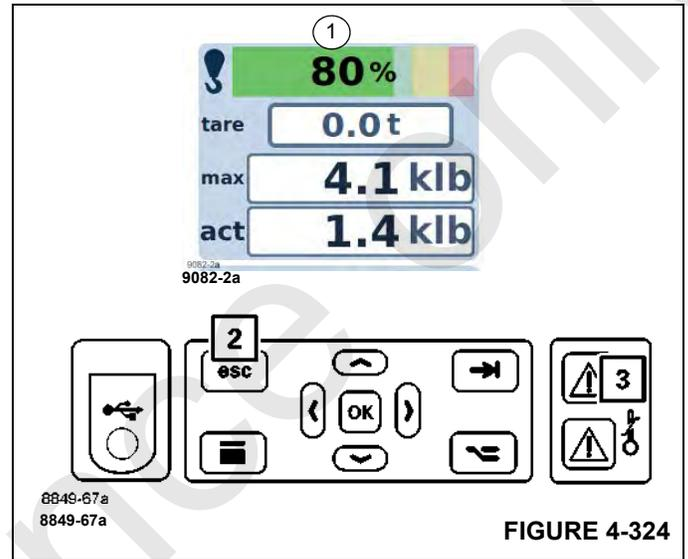

FIGURE 4-324
- An intermittent buzzer tone will sound. After five seconds, you can disable the buzzer tone using button (2), (Figure 4-324).
- The lamp (3), (Figure 4-324) lights up.
- Display (1), (Figure 4-324) shows the current degree of utilization, e.g. 80%; the bar is green.